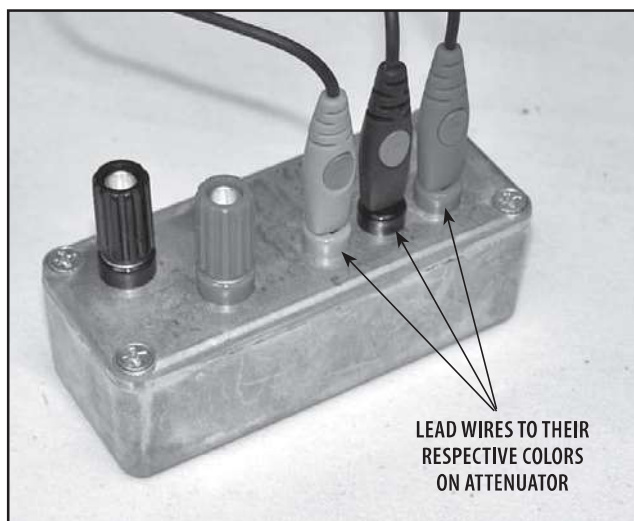

FIGURE 5.32
3. Connect the Channel 1 sEMG lead wires into the Attenuator. Make certain each sEMG Lead is connected to its respective color on the Attenuator. **See Figure 5.32.**